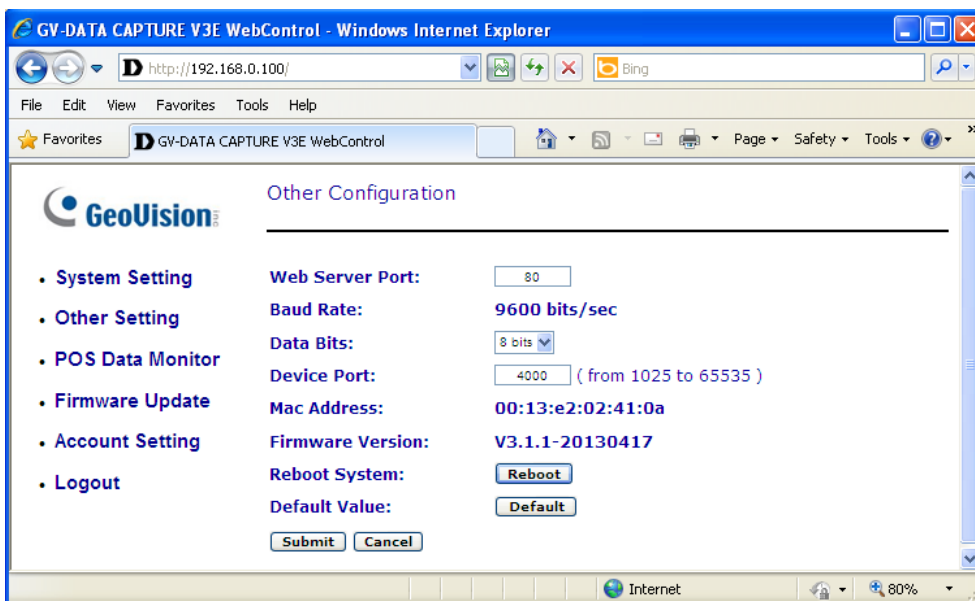

Figure 22
5. In the Device Port field, keep default value **4000**. Or modify it to match that of the POS system (see *Figure 22*).
3. In the Device Port field, keep default value **4000**. Or modify it to match that of the POS system (see *Figure 22*).
- In the Device Port field, keep default value **4000**. Or modify it to match that of the POS system (see Figure 22).